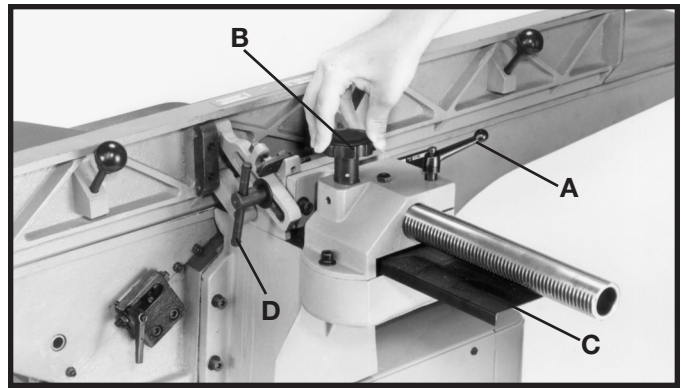
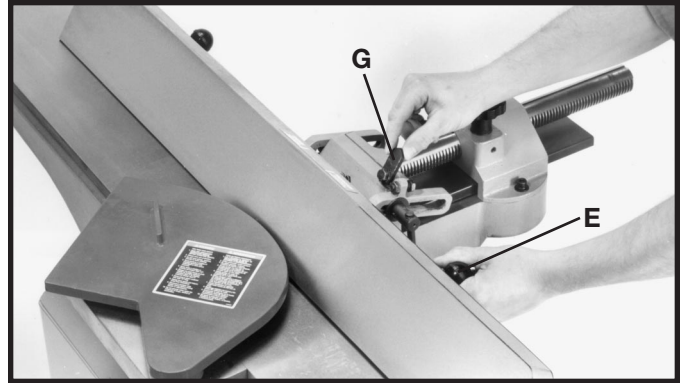

Fig. 50
Fig. 51
1. To move the fence across the table, loosen lock handle (A) Fig. 50, and turn knob (B) until desired fence location is reached. Then tighten lock handle (A). As the fence is moved across the table, the rear cutterhead guard (C) covers and guards the cutterhead in back of the fence. **NOTE:** Lock handle (A) is spring-loaded and can be repositioned by pulling up on the handle and repositioning it on the serrated nut located underneath the hub of the handle.
2. To tilt the fence in or out, loosen lock handle (D) Fig. 50. While holding fence tilting handle (E) Fig. 51, rotate 90° flip stop (G) and tilt the fence to the desired angle, in or out, and tighten lock handle (D) Fig. 50. **IMPORTANT:** When cutting bevels and the angle is small, there is little difference whether the fence is tilted in or out; however, at angles approaching 45 degrees it may become difficult to hold the work securely against the fence when the fence is tilted out. In these cases we suggest that the fence be tilted toward the table, as shown in Fig. 52. The fence will form a V-shape with the tables and the work is easily pressed into the pocket while passing across the knives.